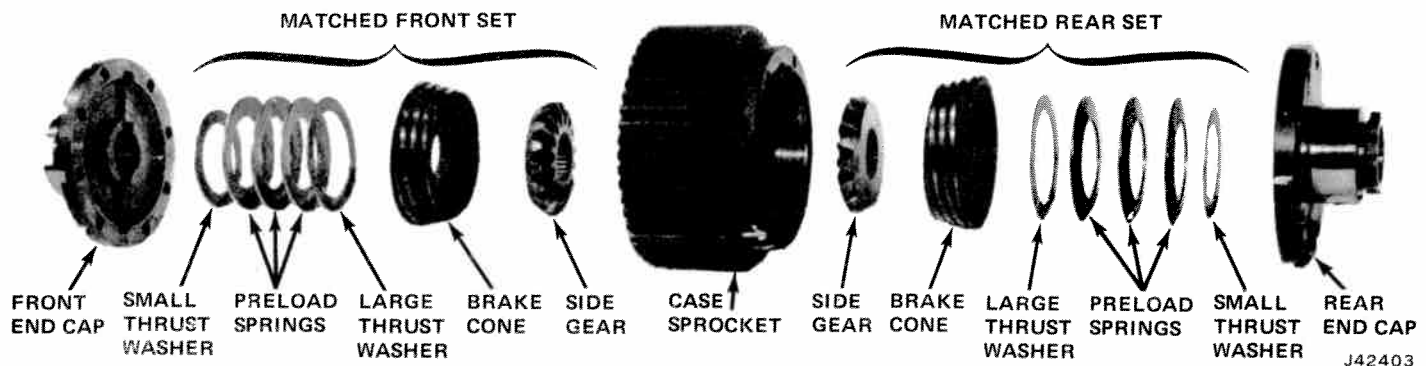

Fig. 8-50 Differential Unit Assembly Sequence
(4) Slide pinion mate gears apart until gears are pressing washers against case sprocket (fig. 8-50).
(5) Mesh appropriate (front or rear) side gear into pinion mate gears.
(6) Position appropriate brake cone over gear and into case sprocket.
(7) Place large thrust washer on brake cone.
(8) Place preload springs against thrust washer with concave side of all springs facing brake cone.
(9) Lubricate small thrust washer and position it on appropriate end cap.
(10) Place end cap and thrust washer onto end of case sprocket.